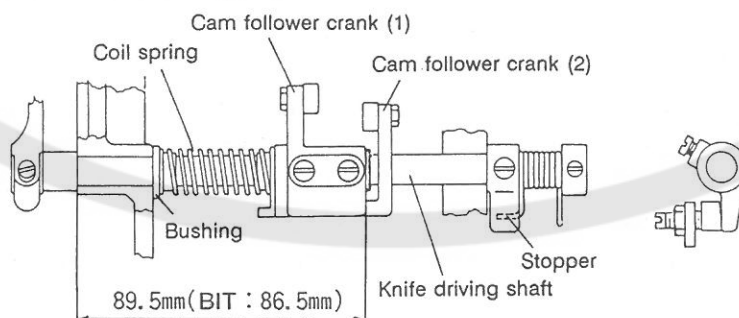
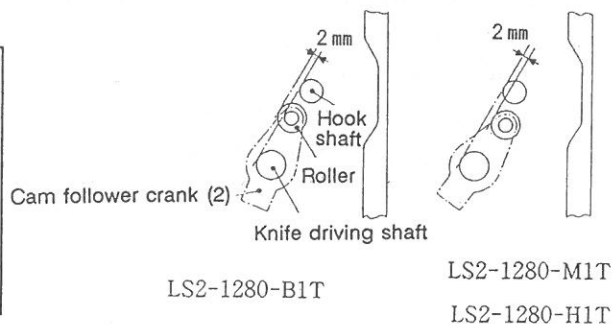

Fig. 7
Fig. 11
- (1) Fig. 7 shows the standard setting position.
- (2) During assembling, be sure to pass the knife driving shaft through the knife driving crank first.
- (3) Fix the cam follower crank (1) to the recess of knife driving shaft at the position shown in Fig. 7.
- (4) Fix the stopper to the recess so that the knife driving shaft can rotate smoothly without play in the axial direction.
The standard position of cam follower crank (2) prior to the operation is shown in Fig. 11. When this position has been changed, for example, by removing the stopper plate, make adjustment with the adjust screw (Fig. 7) and then make adjustment in (1) to (3).